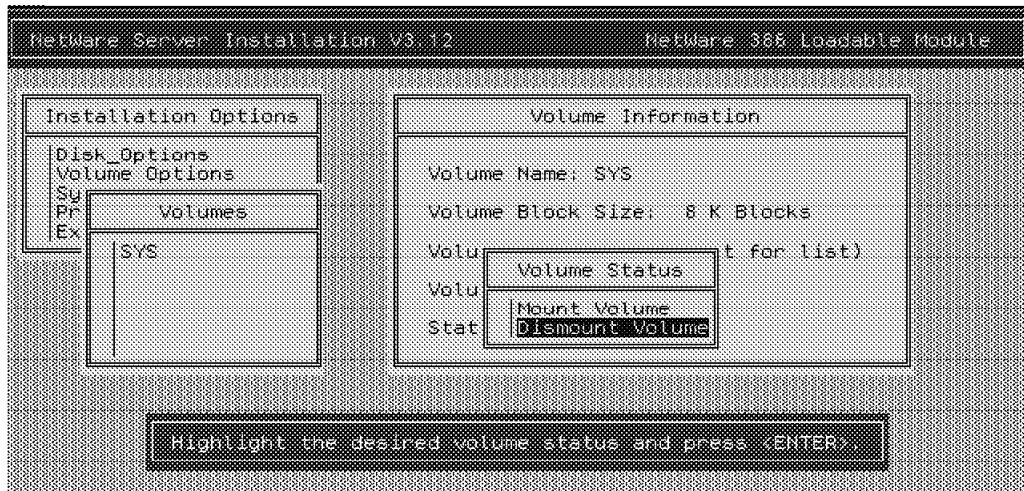

Figure 86. Volume Status
30. Place the cursor on the status field and press Enter. A screen like the one in Figure 86 on page 132 will appear.